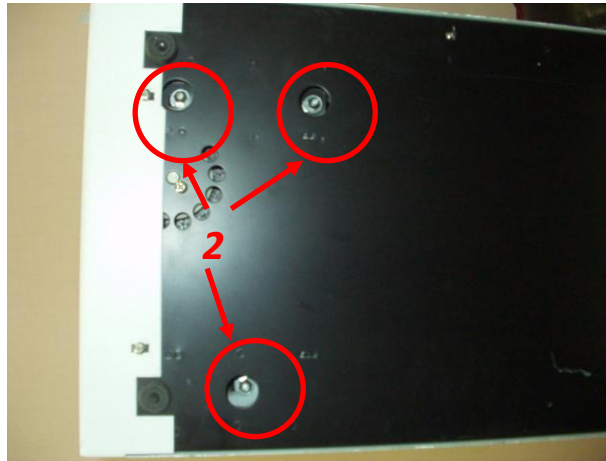

Figure 2: Bolts Holding in the Optics
3. Turn the unit in such a way that you can reach the 3 screws on the bottom holding the optics module (1) in the chassis (Figure 2).
4. Unscrew the 3 nuts (2) and remove the whole optics module (1).